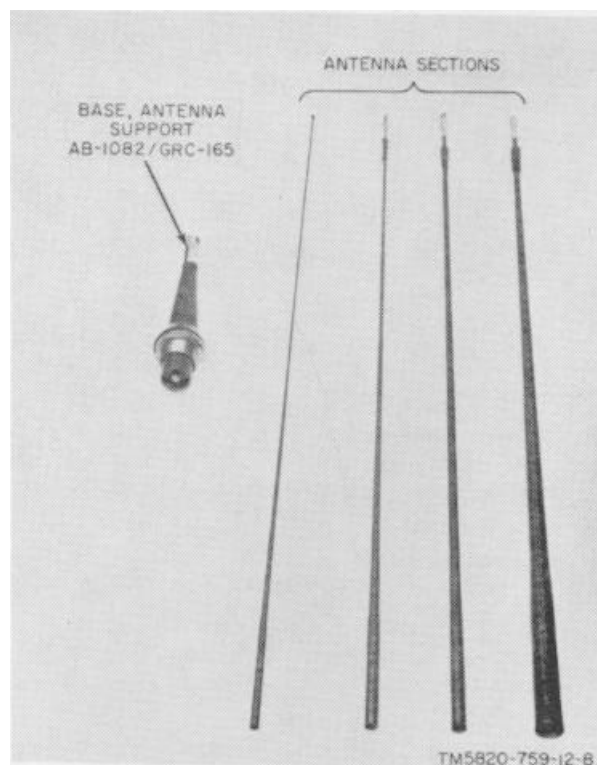

Figure 2-5. Antenna AS-2203/GRC-165.
b. *Antenna AS-2203/GRC-165 (16-Foot Whip Antenna)* (fig. 2-5). This antenna consists of four 4-foot sections with a support base.
(1) Attach Base, Antenna Support AB-1082/GRC-165 (antenna support), through a 1 13/16-inch hole and secure it with the nut supplied.
(2) Assemble the four antenna sections by screwing them end to end; then screw the whip antenna assembly into the antenna support threads.